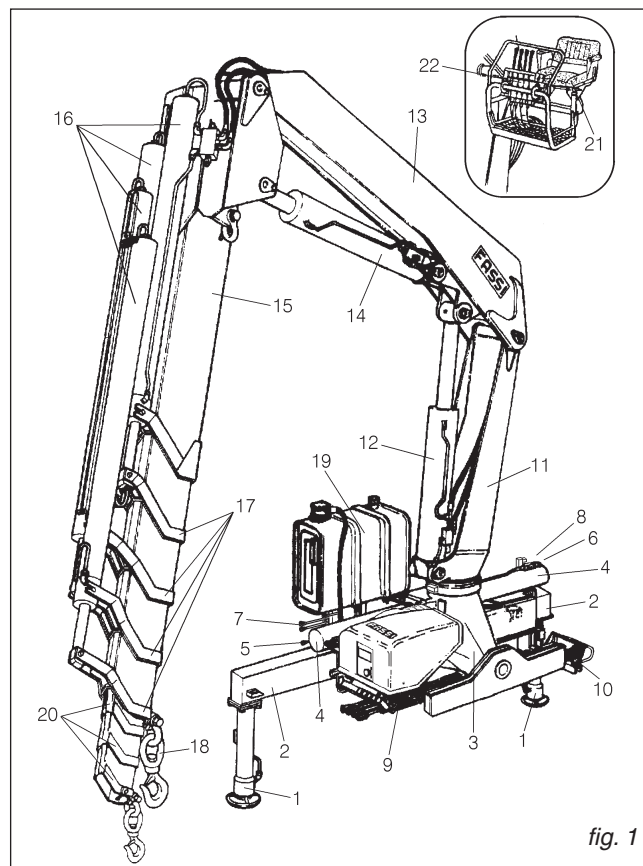

fig. 1
9.2 Crane with ground controls on both sides. Crane with ground controls on both sides and with top seat controls by hand cables (on request)(fig. 1)
10.2 Crane with ground controls on both sides. Crane with ground controls on both sides and with top seat controls by hand cables (on request)(fig. 1)